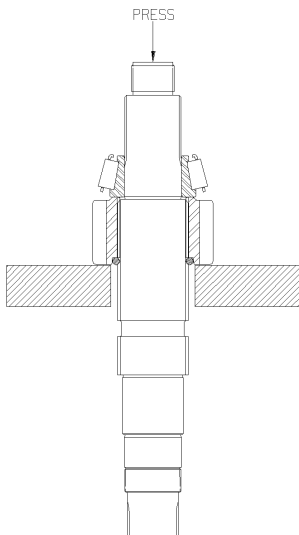

Fig. 27
3. Invert the shaft and remove the under-drive gear and front support bearing as shown. *See Fig. 27.*